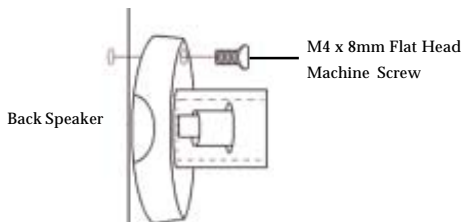

Figure 2
3. Some speakers use the smaller M4 x 8 screw, which is inserted into the off-center on the mounting post, see **Figure 2** below.